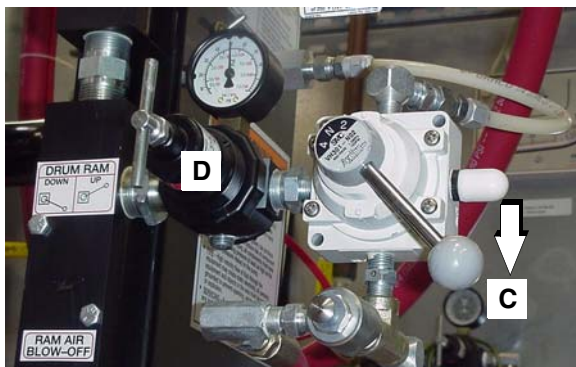

FIG. 11
9. Lower the ram plate into the drum (move ram lever to DOWN), FIG. 11.